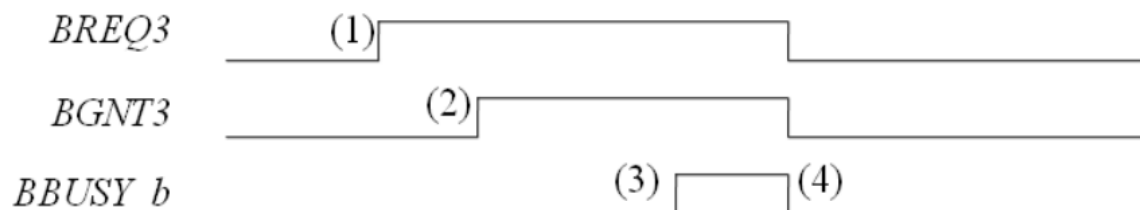

Figure 4. An example of bus arbitration
Figure 4 shows an example of bus arbitration. (1) master 3 sends the request signal (BREQ3) to the arbiter while master 1 uses the bus. Hence the BBUSY signal is low. (2) The arbiter sends the grant signal (BGNT3). (3) Master 1 completes its operation and releases the BBUSY_ signal (goes high), (4) Master 3 makes BBUSY_ signal active (goes low) and starts to read or write to the bus.